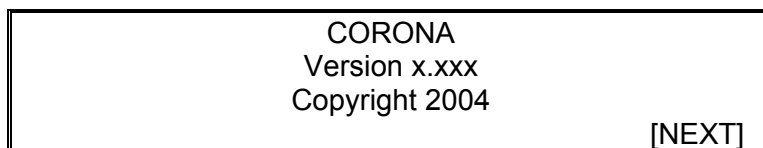

Figure 2-13: The Version/Copyright Screen
- b) After the self test is completed successfully, the Version/Copyright screen (Figure 2-13) will be presented for several seconds. **Record the version information on the worksheet.**